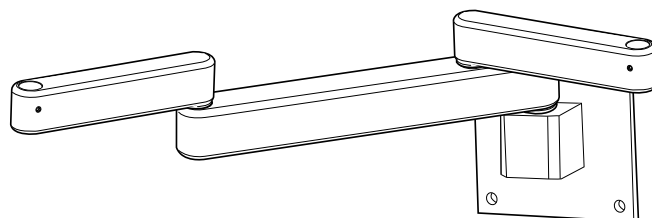

Figure 2
3. **Install 8" and 6" rigid arms** (see Figure 2).